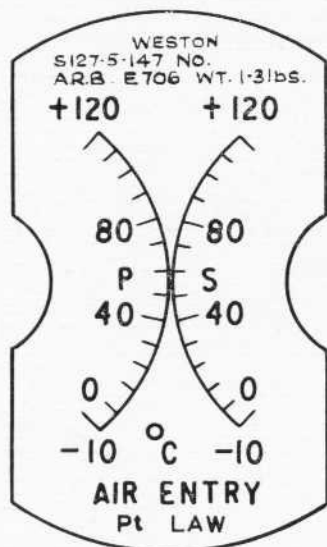

Fig. 1. Indicator, Type S127.5.147
1. The dual temperature indicator, Type S127.5.147 (fig. 1) is calibrated in deg. C from -10 to 120 each of the two scales. The deflection of each pointer is controlled by the variation of resistance of an externally connected platinum law resistance thermometer element. The two indicator movements are each designed as a ratiometer.